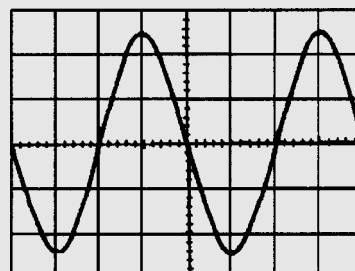

Figure RT3.1
1. A conductor, 25 cm long is situated at right angles to a magnetic field. Determine the strength of the magnetic field if a current of 12 A in the conductor produces a force on it of 4.5 N. (3)
2. An electron in a television tube has a charge of 1.5×10^{-19} C and travels at 3×10^7 m/s perpendicular to a field of flux density $20 \mu\text{T}$. Calculate the force exerted on the electron in the field. (3)
3. A lorry is travelling at 100 km/h. Assuming the vertical component of the earth's magnetic field is $40 \mu\text{T}$ and the back axle of the lorry is 1.98 m, find the e.m.f. generated in the axle due to motion. (4)
4. An e.m.f. of 2.5 kV is induced in a coil when a current of 2 A collapses to zero in 5 ms. Calculate the inductance of the coil. (4)
5. Two coils, *P* and *Q*, have a mutual inductance of 100 mH. If a current of 3 A in coil *P* is reversed in 20 ms, determine (a) the average e.m.f. induced in coil *Q*, and (b) the flux change linked with coil *Q* if it is wound with 200 turns. (5)
6. A moving coil instrument gives a f.s.d. when the current is 50 mA and has a resistance of 40Ω . Determine the value of resistance required to enable the instrument to be used (a) as a 0–5 A ammeter, and (b) as a 0–200 V voltmeter. State the mode of connection in each case. (8)
7. An amplifier has a gain of 20 dB. Its input power is 5 mW. Calculate its output power. (3)
8. A sinusoidal voltage trace displayed on an oscilloscope is shown in Fig. RT3.1; the 'time/cm' switch is on 50 ms and the 'volts/cm' switch is on 2 V/cm. Determine for the waveform (a) the frequency (b) the peak-to-peak voltage (c) the amplitude (d) the r.m.s. value. (7)
9. With reference to a p-n junction, briefly explain the following terms: (a) majority carriers (b) contact potential (c) depletion layer (d) forward bias (e) reverse bias (10)
10. Briefly describe each of the following, drawing their circuit diagram symbol and stating typical applications: (a) zenor diode (b) silicon controlled rectifier (c) light emitting diode (d) varactor diode (e) Schottky diode (20)